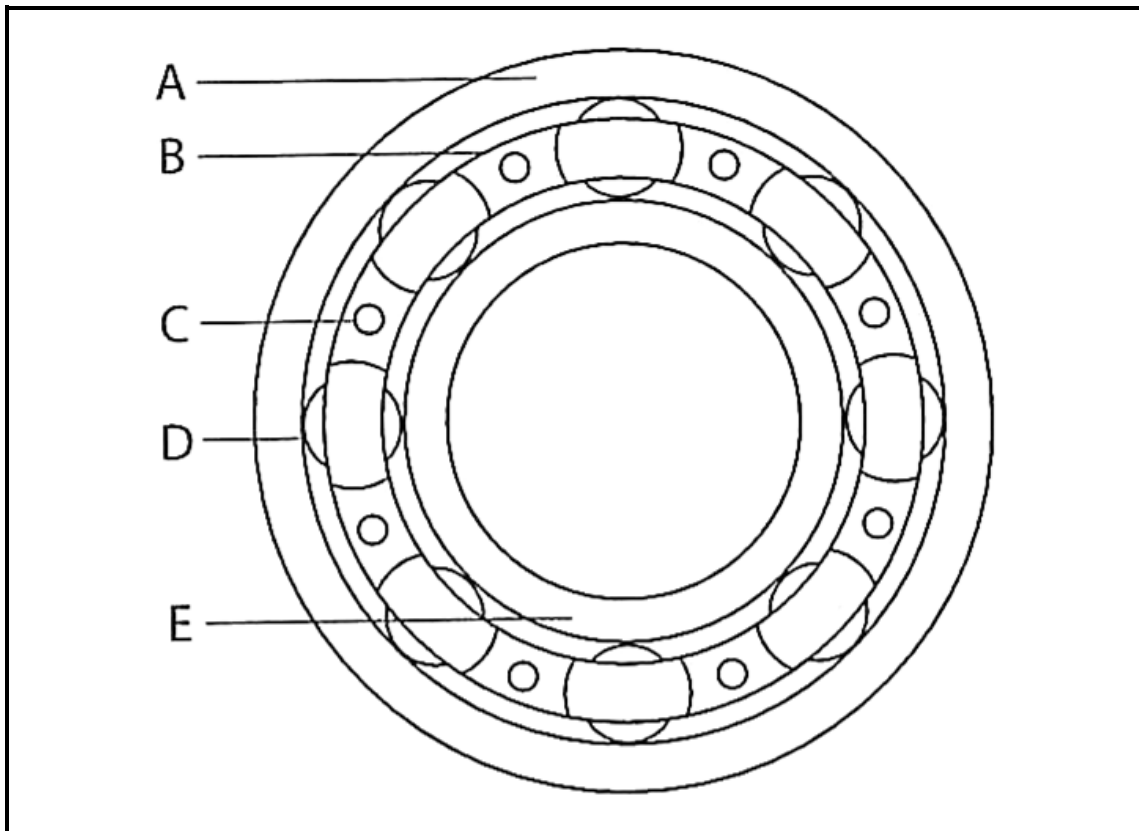

FIGURE 1
Label the components of the bearing shown in FIGURE 1 (above) by writing only the answer next to the letter (A–E) in the ANSWER BOOK. (5 × 1) (5)
1.3 Give THREE advantages and TWO disadvantages of plain bearings. (3 + 2) (5)